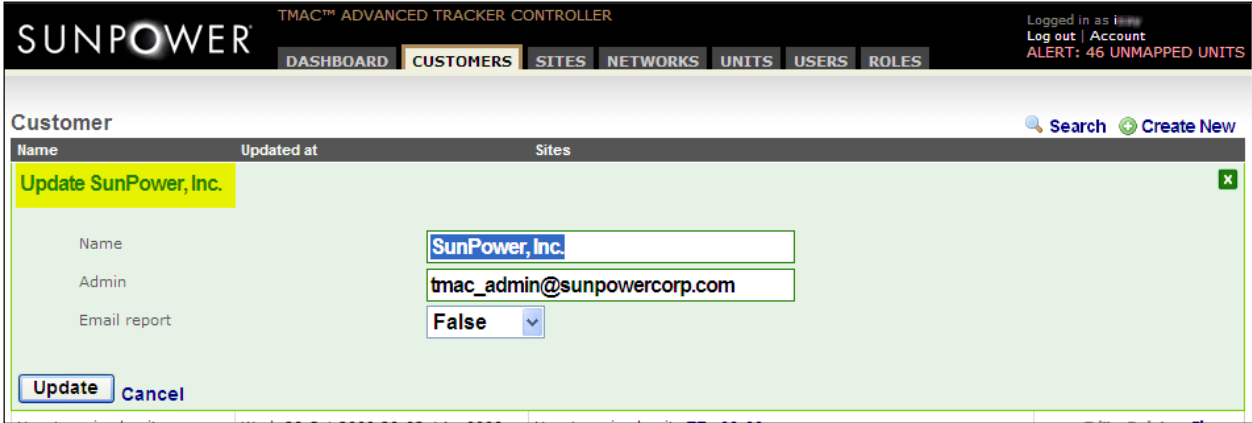

Fig. B63
- c. Enter or select values in the **Update [Customer name]** window (Fig. B63).